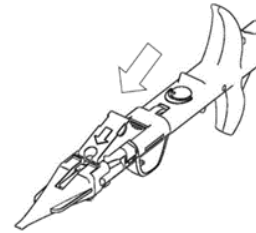

Fig. 5
7. Push the red stopper forward until it clicks to secure the cartridge nozzle and at the same time to release the pushing rod, as shown in Fig. 5. Avoid premature pushing of the rod which is freely movable after this action.